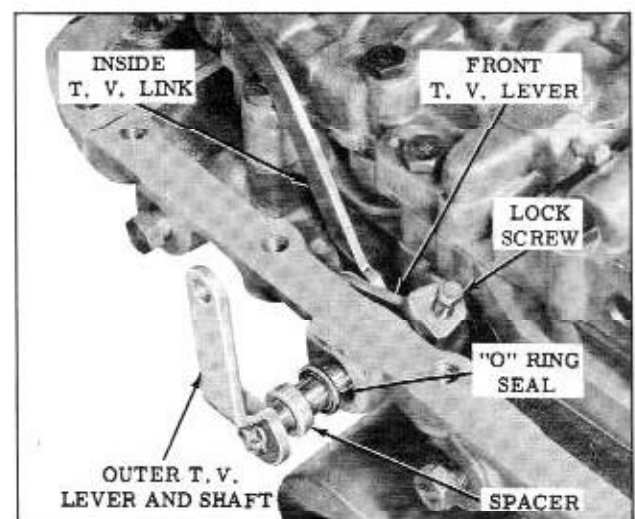

Fig. 3-124 Installing T.V. Link
64. If removed, install inside T.V. link to front T.V. lever assembly and retain with "E" ring. (Fig. 3-124)